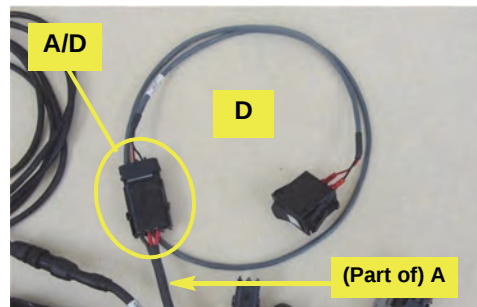

Figure 1c: Connecting the power switch cable
- c. Connect power switch cable **D** (using the extension cable if required/obtained) to the 4-pin connector on interface cable **A** (Figure 1c).